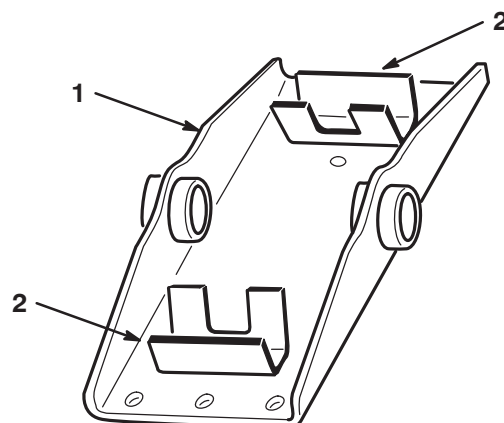

Figure 2
10. On the under side of the axle pivot, locate the axle stops (Fig. 2).